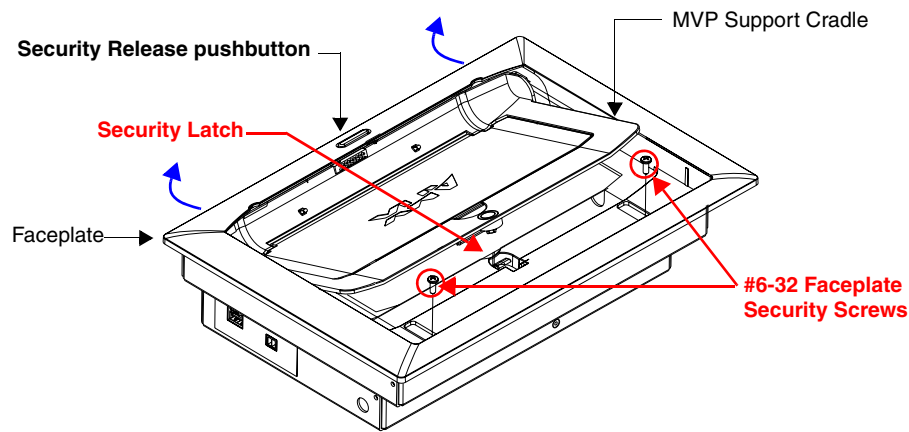

FIG. 20 Faceplate screw removal
9. Remove the two #6-32 Faceplate Security Screws from the top rim of the faceplate (FIG. 20) and place these aside.
10. Position the MVP-WDS unit so the Security Release pushbutton is positioned directly in front of you, then grasp the top rim of the faceplate and begin to angle it upwards. At this point, the faceplate is still connected to the Security Latch (located behind the securing magnet, as shown in FIG. 20).